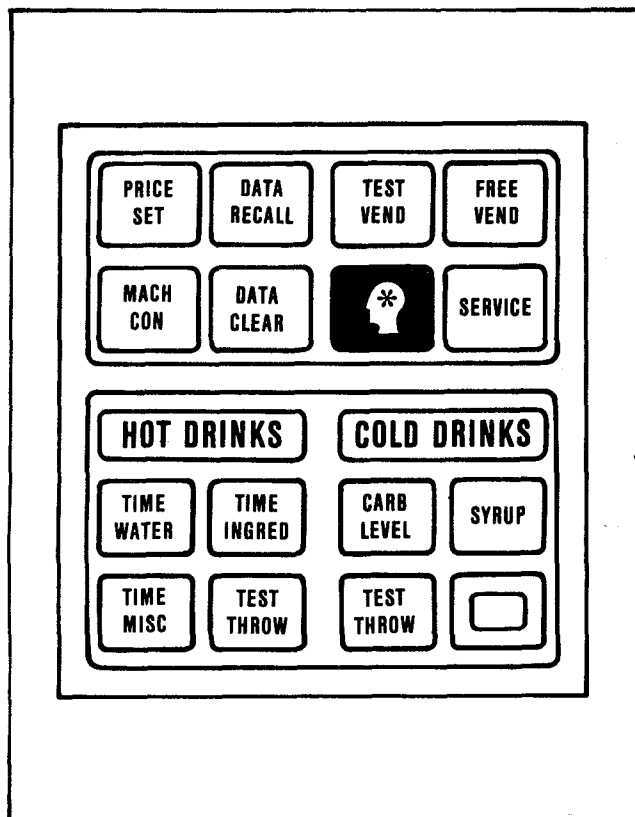

Figure 2-13. Door Controller Switch Panel
A. Press the CARB LEVEL switch on the Door Controller Panel. See Figure 2-13.
D. Press the TEST THROW switch for COLD DRINKS on the Door Controller Switch Panel. See Figure 2-13.
- D. Press the TIME INGRED switch on the Door Controller Switch Panel. See Figure 2-13.
- G. Press the TEST THROW switch for HOT DRINKS while catching a throw of ingredient under test. See Figure 2-13.
A. Press the TM WATER Switch on the Door Controller Switch Panel. See Figure 2-13.
The Selection Membrane switches on the Selection Switch Panel (See Figure 2-1) control the normal operating or vending of products. The Door Controller Membrane Switches (Figure 2-13) and the Selection Membrane Switches control